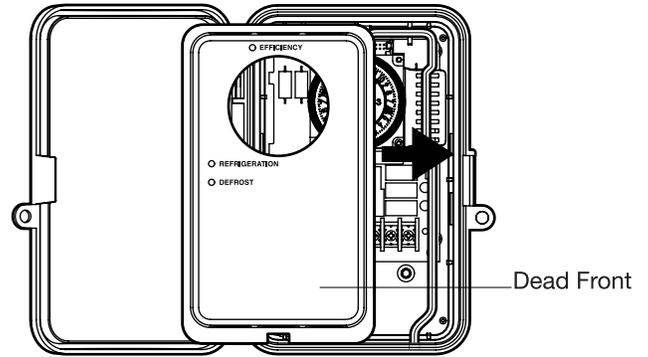

FIG. 7. Attach the Dead Front
2. Snap the existing dead front cover into place, if applicable. See FIG. 7.